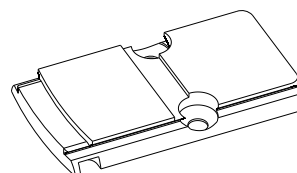

Fig 5-2
2. (Fig5-2) Use the two included 6-32 T10 flat head screws to attach the mounting plate to an industry standard mounting interface. Tighten the screws to 15 in/lbs.